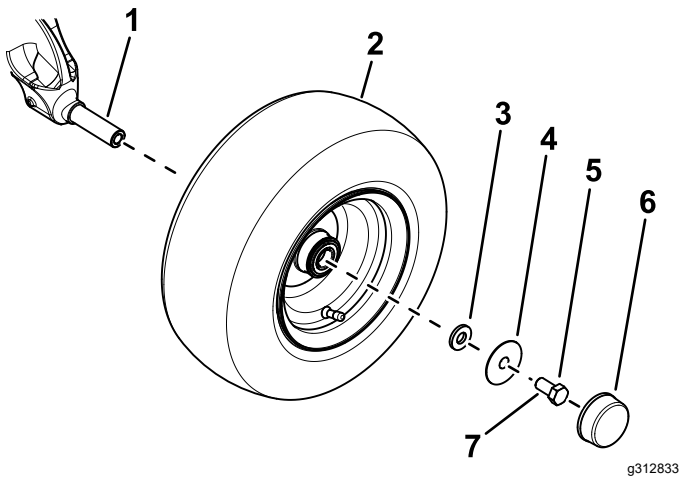

Figure 3
3. Apply thread-locking compound to the internal threads in the axle spindle (Figure 3).
4. Use a small washer, large washer, bolt (5/8 x 1-1/4 inch), and to secure the wheel to the axle spindle (Figure 3).
6. Install the dust cap to the wheel (Figure 3).